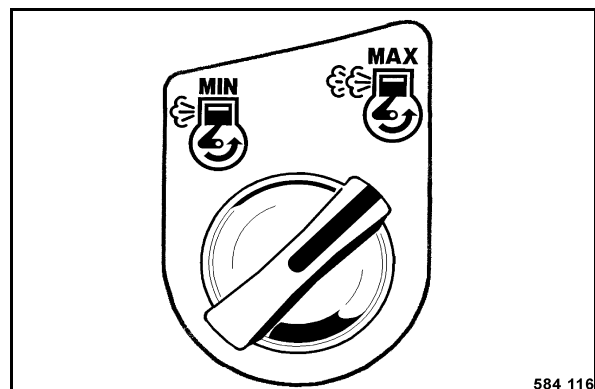

Fig. 55
- Turn the rotary momentary contact switch for engine speed (Fig. 55) clockwise to "MAX".